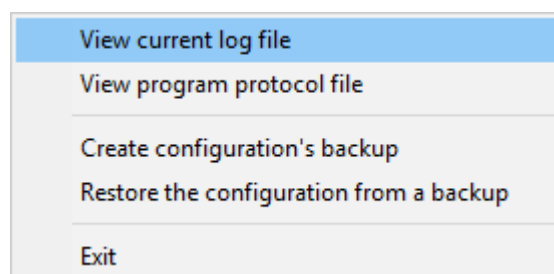

Fig. 1.1.2. "File" menu item
- The main menu above the toolbar allows you to edit the program settings ("Options -> Program settings..."), manage configurations, open the current logfile from the "File" menu (fig. 1.1.2).